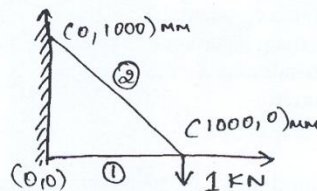

Fig Q3(a)
- A truss structure is subjected to a load of 1kN as shown in figure Q3 (a). Calculate the nodal displacements and forces if the elements stiffness (AE/L) for both elements is 10kN/mm.